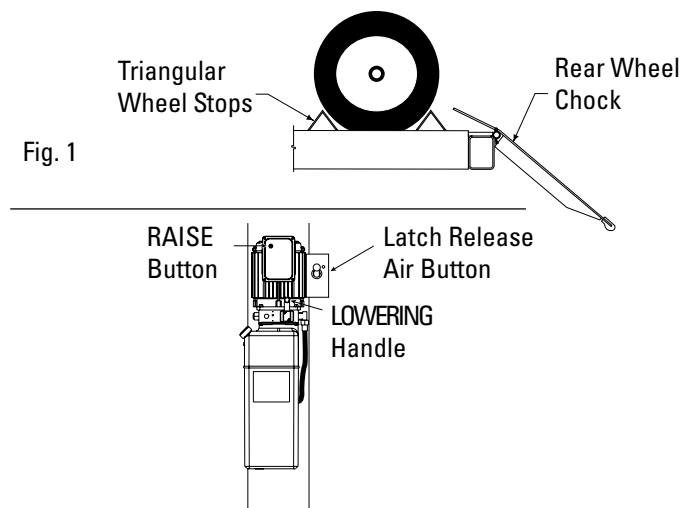

Fig. 2
5. **To Raise Lift:** Push the "RAISE" button on the power unit. Release button at desired height, Fig. 2.
10. Actuate the latch release valve on the power unit column to disengage all four locking latches, Fig. 2. Hold actuator until lift has fully lowered.
11. Push the lowering handle on the power unit to lower lift, Fig. 2. Lowering speed can be controlled by the force applied to the lowering handle.